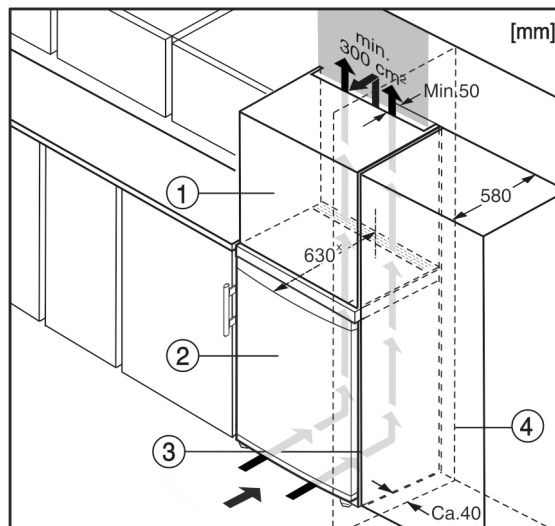

Fig. 8
- (1) Top cupboard
(2) Appliance
(3) Kitchen cabinet
(4) Wall
The appliance can be built into kitchen units. A top cupboard Fig. 8 (2) can be added above the appliance in order to bring the appliance Fig. 8 (1) up to the height of the fitted kitchen units.
If you are integrating the appliance into a kitchen unit (max. depth 580 mm) you can install it right next to the kitchen cabinet Fig. 8 (3). The appliance measures 34 mm * at the side and 50 mm * at the centre in relation to the front of the kitchen cabinet.
If you are installing the appliance with the hinges next to a wall Fig. 8 (4), the distance between the appliance and the wall must be at least 40 mm. This is how far the handle protrudes when the door is open.